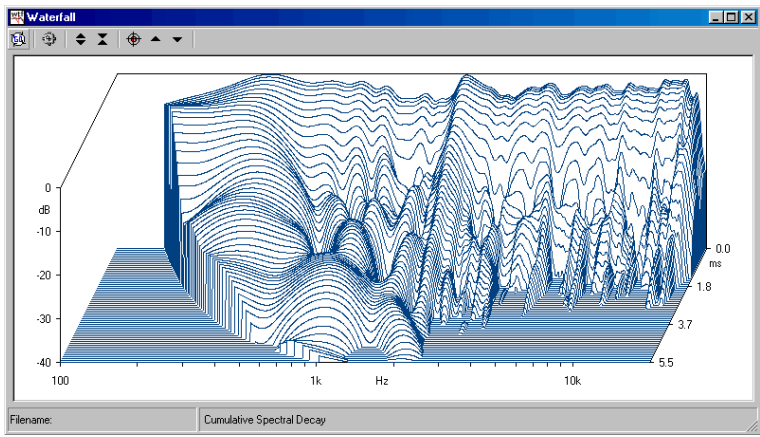

Figure 12.5
-  Enters the Marker mode (see Fig. 12.5). In this operating mode it is possible to inspect the single data points of each waterfall slice clicking and dragging the mouse.
Let's invoke the waterfall control panel. The Go button should be enabled. Press it, you should obtain a waterfall like the one in Fig. 12.5.